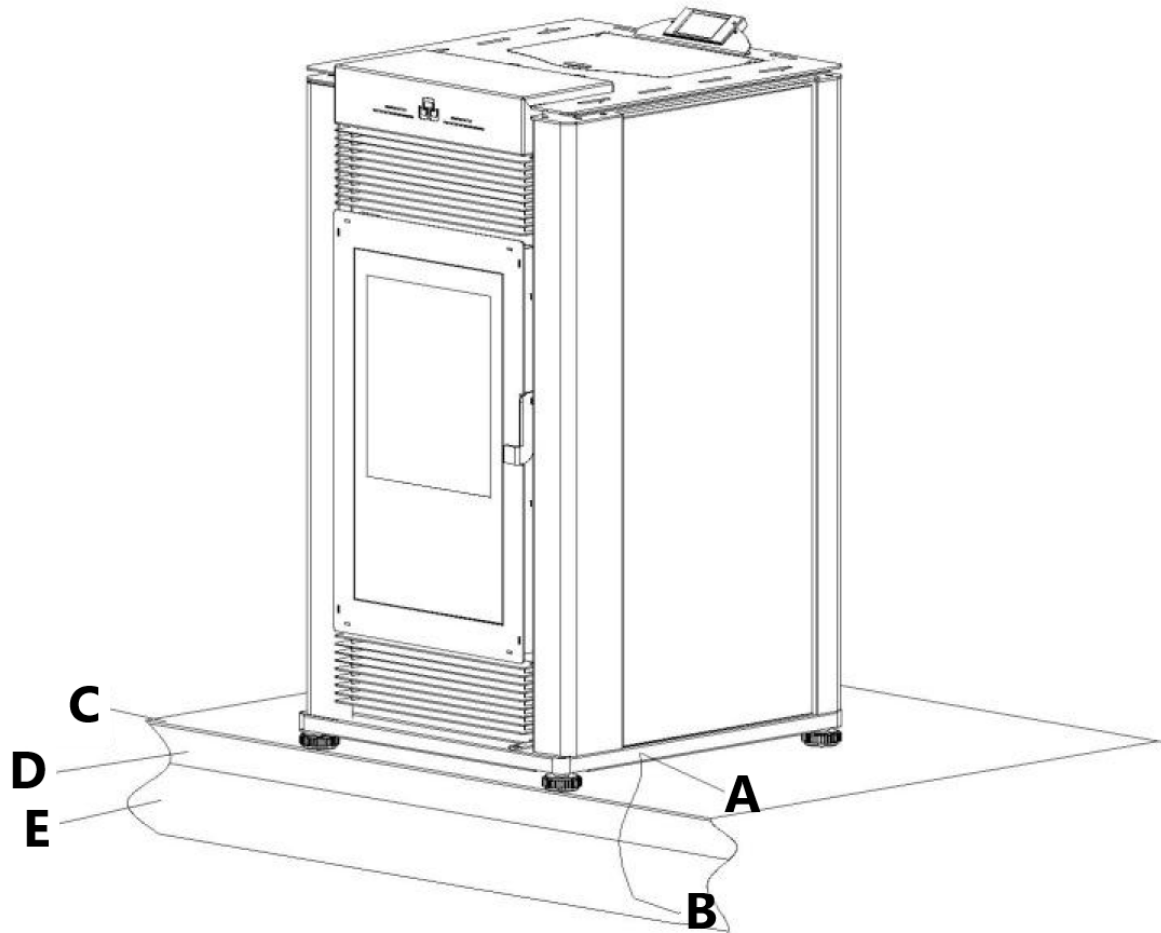

Fig. 21
- Permanently bolt the stove to the floor. Use 4 screws [A] through the 4 holes placed at left and right side in the base plate as shown in figure 21.